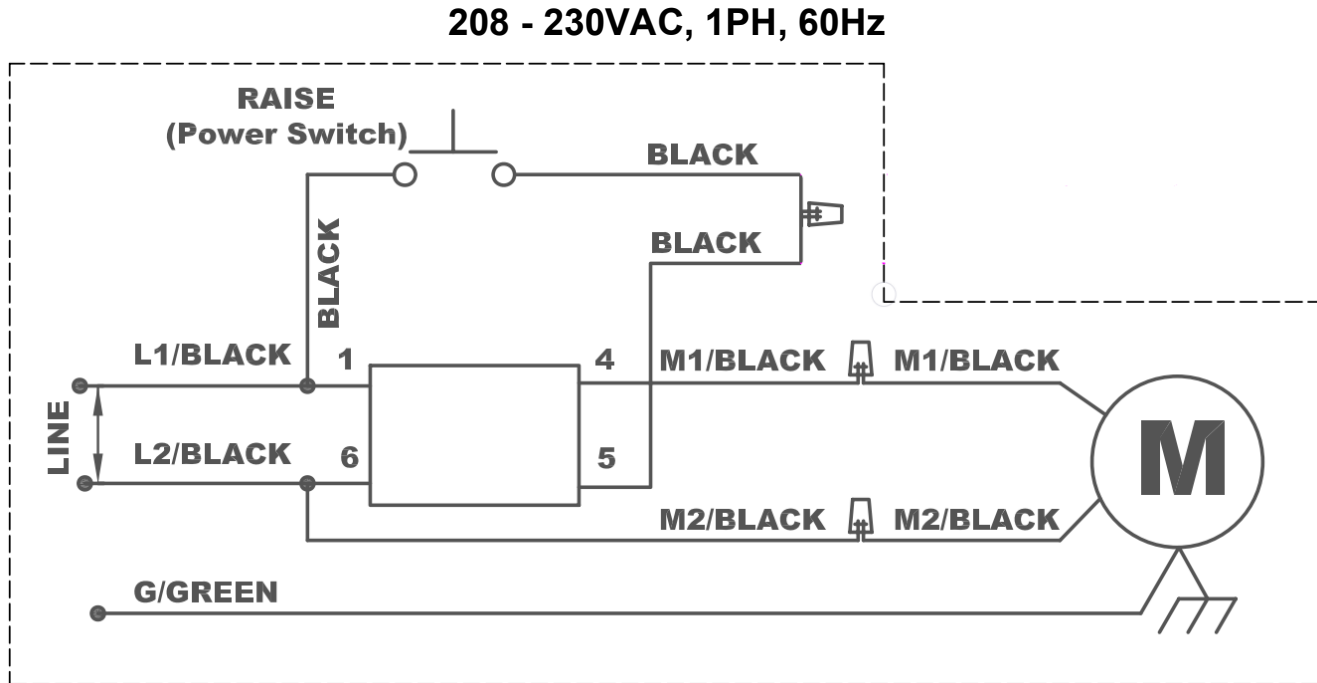

Fig. 29
- 1) Have a Certified Electrician make the electrical connection from power supply to the power unit. Use separate circuit for each power unit, Fig. 29.